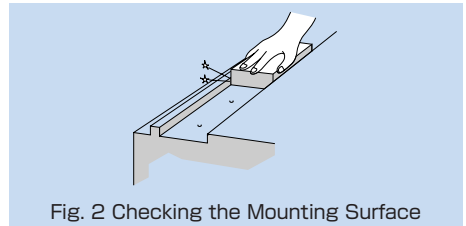

Fig. 2 Checking the Mounting Surface
- ① Be sure to remove burr, indentations and dust from the mounting surface of the machine to which the LM Guide is to be mounted before installing the LM Guide (Fig. 2).